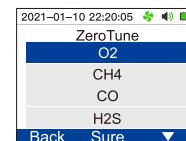

Figure 18
**Zero drift:** After the sensor is used for a long time, the zero point is offset, and the display is not zero in the clean air, and it can be returned to zero through the zero point translation (Figure 18).